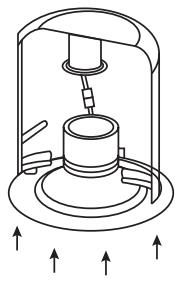

Figure 4.5
9. Carefully route wires into fixture and push trim up flush to ceiling surface (Fig 4.5).